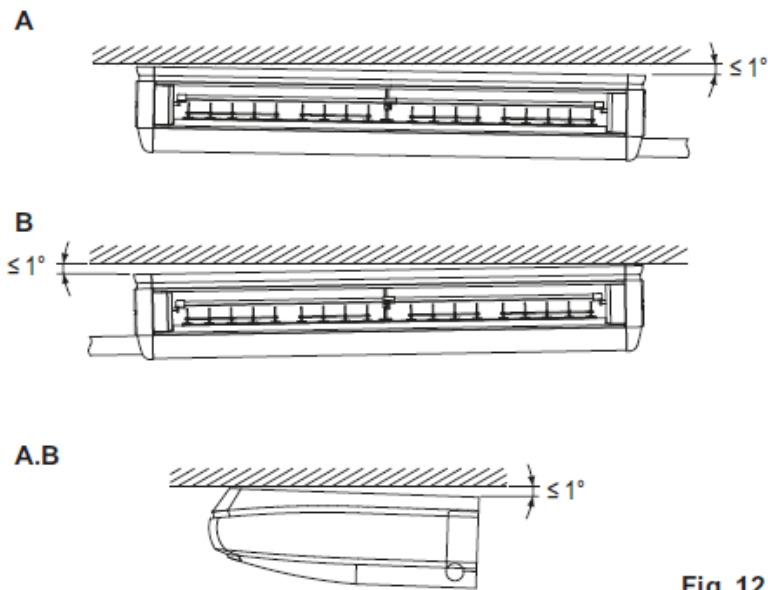

Fig. 12
- When hanging the indoor unit, make sure to use the level to have better drainage and install it horizontally. Also, if it is possible at the installation site, install so that the drain piping side is slightly lower. (Refer to Fig. 12)